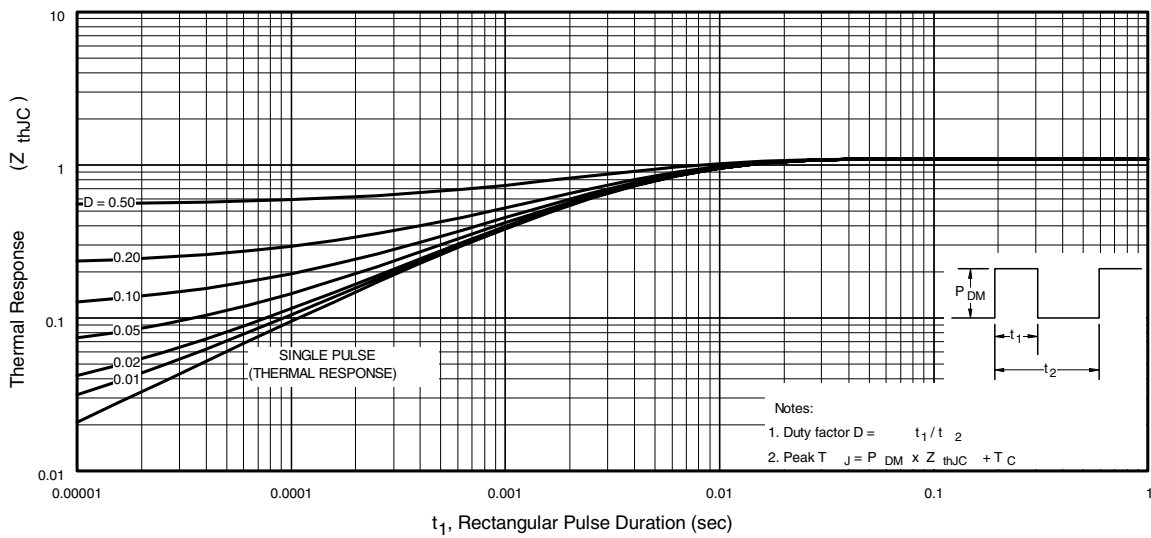
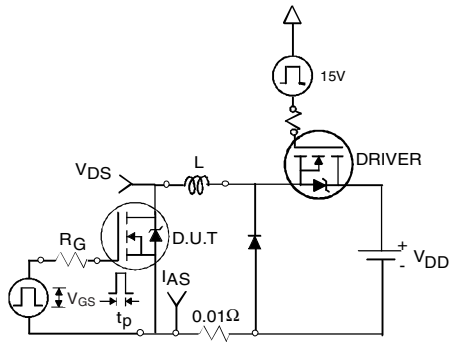

Fig 11. Maximum Effective Transient Thermal Impedance, Junction-to-Case
Fig 12a. Unclamped Inductive Test Circuit
3. Equation below based on circuit and waveforms shown in Figures 12a, 12b.
$Z_{thJC}(D, t_{av})$ = Transient thermal resistance, see figure 11)
- ① Repetitive rating; pulse width limited by max. junction temperature. (See fig. 11).
- ② Limited by T_{Jmax} , starting $T_J = 25^\circ C$, $L = 0.52mH$, $R_G = 25\Omega$, $I_{AS} = 30A$, $V_{GS} = 10V$. Part not recommended for use above this value.
- ③ $I_{SD} \leq 30A$, $di/dt \leq 170A/\mu s$, $V_{DD} \leq V_{(BR)DSS}$, $T_J \leq 175^\circ C$.
- ④ Pulse width $\leq 1.0ms$; duty cycle $\leq 2\%$.
- ⑤ C_{OSS} eff. is a fixed capacitance that gives the same charging time as C_{OSS} while V_{DS} is rising from 0 to 80% V_{DSS} .
- ⑥ Limited by T_{Jmax} , see Fig.12a, 12b, 15, 16 for typical repetitive avalanche performance.
- ⑦ This value determined from sample failure population. 100% tested to this value in production.
- ⑧ When mounted on 1" square PCB (FR-4 or G-10 Material). For recommended footprint and soldering techniques refer to application note #AN-994.